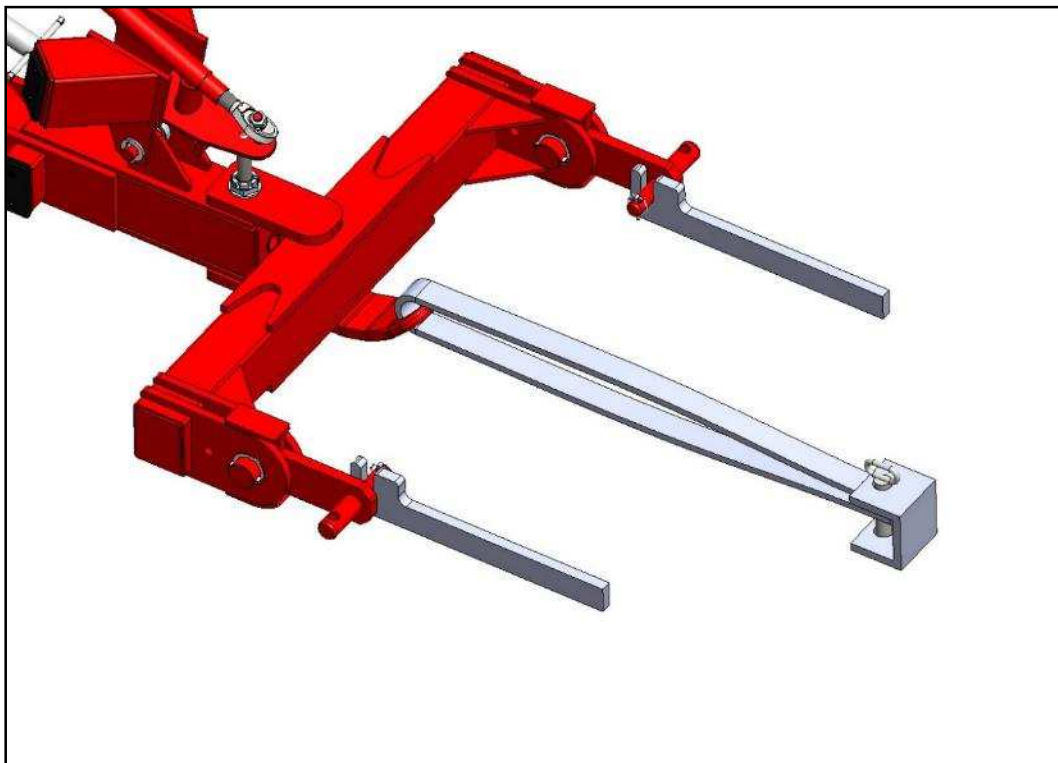

Figure 14
In order to hitch the tractor to the machine, the operator must reverse the tractor until the machine's hitch comes into line with the rear lifting bars (see *Figure 14*).
- Connect the safety belt to the tractor towing hook (see Figure 14)